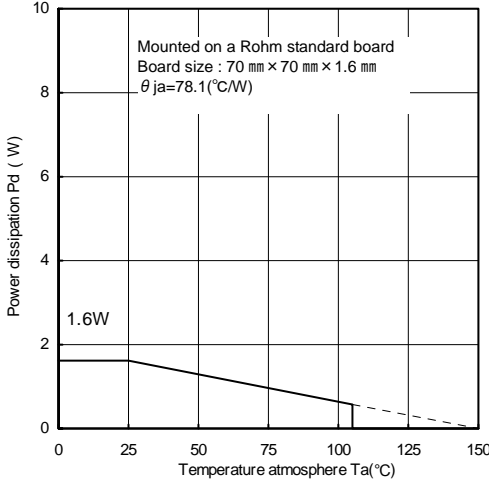
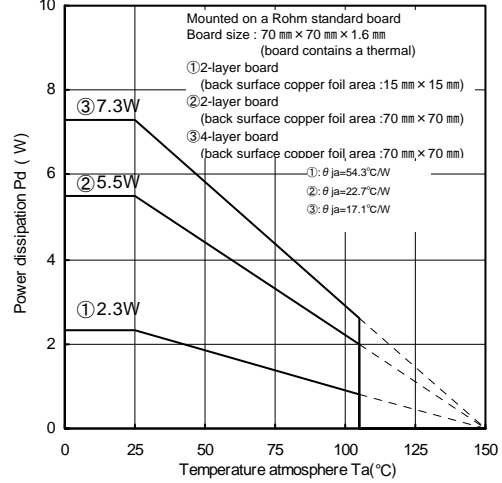

Fig.15
Fig.16 (Reference data)
When using at temperatures over $T_a=25^{\circ}\text{C}$, please refer to the heat reducing characteristics shown in Fig.15. and Fig.16. The IC characteristics are closely related to the temperature at which the IC is used, so it is necessary to operate the IC at temperatures less than the maximum junction temperature T_{jmax} .
Fig.15 and Fig.16 shows the acceptable loss and heat reducing characteristics of the HRP5 package. Even when the ambient temperature T_a is a normal temperature (25°C), the chip (junction) temperature T_j may be quite high so please operate the IC at temperatures less than the acceptable loss P_d .
The calculation method for power consumption $P_c(\text{W})$ is as follows :(Fig.16③)
$\left[\begin{array}{l} \text{Fig.16③: } \theta_{ja}=17.1^{\circ}\text{C/W} \rightarrow -58.4\text{mW}/^{\circ}\text{C} \\ 25^{\circ}\text{C}=7.3\text{W} \rightarrow 85^{\circ}\text{C}=3.796\text{W} \end{array} \right]$